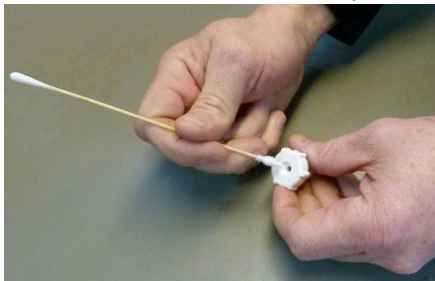

Figure 6-17 Cleaning Probe
5. Insert a cotton swab dampened with IPA into probe center to clean it. (See Figure 6-17.)